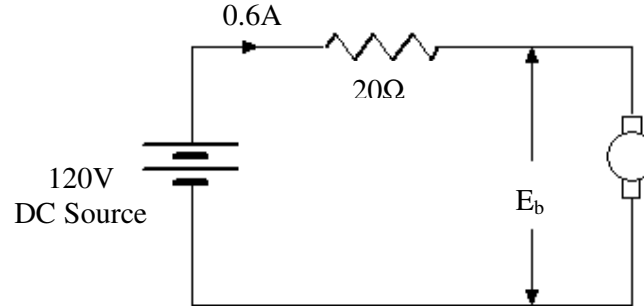

Fig F1
- Q.5** A 120V, 60Hz, 1/4hp universal motor runs at 2000 rpm and takes 0.6A when connected to a 120V d.c. source. Determine the speed, torque and power factor of the motor when it is connected to a 120V, 60 Hz, supply and is loaded to take 0.6A (rms) of current. The resistance and inductance measured at the terminals of the motor are 20 ohm and 0.25H respectively. (7)
Ans: Universal Motor: (A) When connected to a d.c. source it runs at 2000RPM and takes 0.6A [Fig F1]